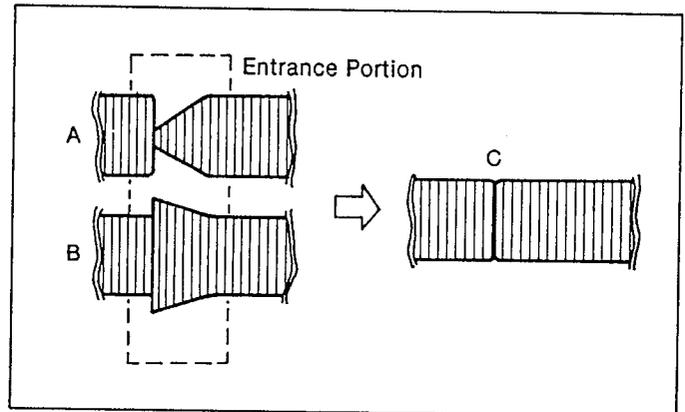

Fig. M21
3. If the RF envelope appears like example "A" or "B" in Fig. M21 then adjustment of the tape guide post (P2 : Entrance) is necessary.
4. Adjust the tape guide post (P2) with the post adjustment screwdriver so that the RF envelope waveform at the entrance portion becomes flat as shown in Fig. M21-"C".